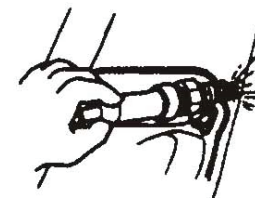

Figure 53
- 1.4 Remove the spark plug, check if there is spark jumping out. (Figure 53)